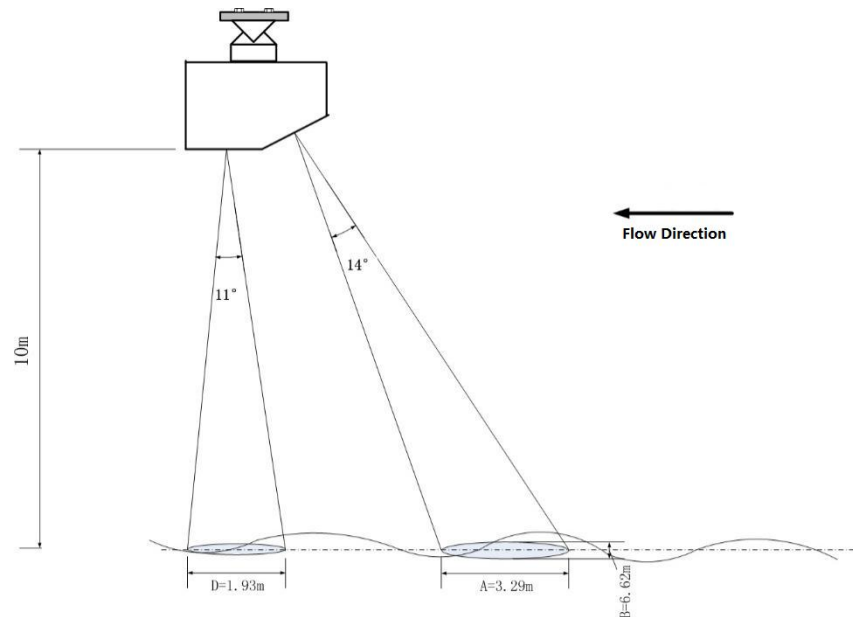

Figure 3-2 Illumination Area of Water Level Meter and Current Meter Antenna with 10m Installation Height
The flowmeter integrates a radar water level meter and a radar current meter. The antenna beam angle of the radar water level meter is $11^{\circ} \times 11^{\circ}$, and the radar antenna angle is $14^{\circ} \times 32^{\circ}$. When the water level meter illuminates the water surface, the illuminated area is similar to a circle, while the current meter illuminates the water surface, the illuminated area is similar to an elliptical area, as shown in Figure 3-2. An accurate understanding of the illumination range of radar waves is helpful to choose a suitable place for the flowmeter installation, and keep away from some scenes where the flowmeter is easy to be interfered, such as branches swinging with the wind on both sides of the river.
The boundary of the water surface area illuminated by radar is proportional to the installation height. Table 3-1 shows the values of parameter A, B, and D when the installation height is 1m and the wave beam of water level meter and current meter irradiates the water surface (see Figure 3-2 for the meaning of A, B and D). The actual installation height (in meters) multiplied by the following values is the actual corresponding parameters.
3. The current meter beam is recommended to be directed towards the incoming water, as shown in Figure 3-2, with a horizontal angle of 0 degrees to the water flow direction.